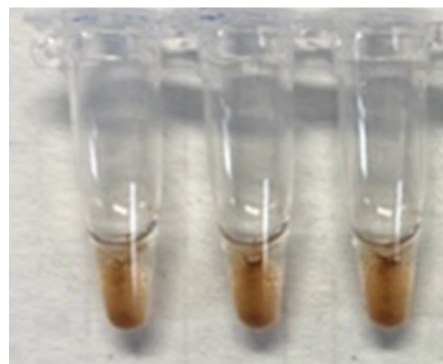

FIGURE 10
36. Remove tubes from 4°C incubation and quick spin to collect liquid. Note that beads may settle overnight (Figure 10), but this will not impact results.